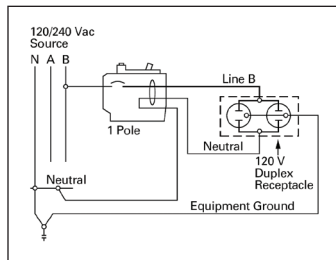

Figure 1. Single-pole, single 120 V load application sourced by 120/240 Vac
- a Common trip refers to two-pole 240 V load application sourced by 120/240 Vac (see **Figure 1**).